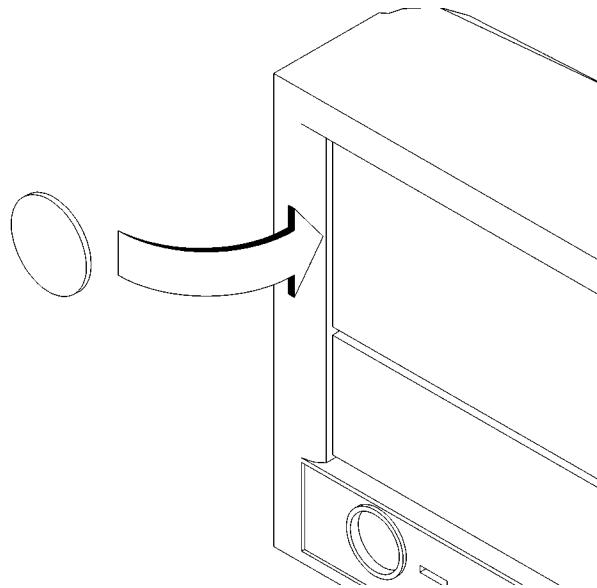

Figure 27
- 1 Remove the disk filler panel from the bottom location of the bezel by using a coin or other flat, blunt, object to pry it from the front, as shown in Figure 27.